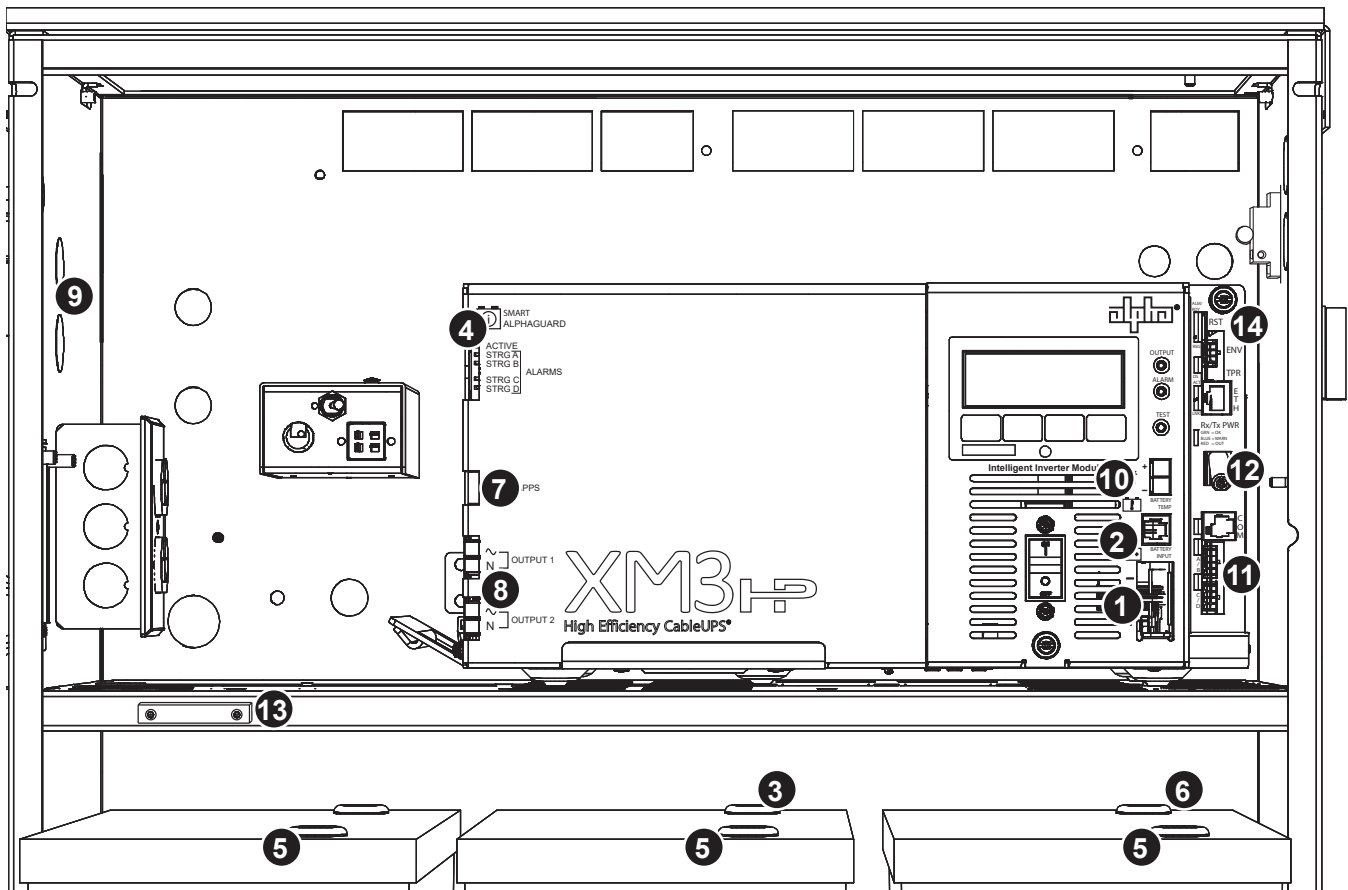

Fig. 4-1, XM3-HP™ System Components
- Inspect all cabling and connections of the power supply system (see **Fig. 4-1**). Verify that all cabling is intact and all connectors are properly seated; resolve as needed.